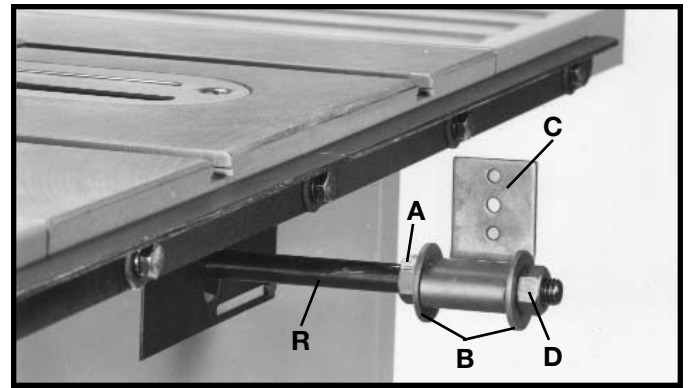

Fig. 26
1. Thread a M12x1.75 hex nut (A) onto the splitter support rod (R) Fig. 26, as far as it will go.
2. Place a 5/8" flat washer (B) Fig. 26, onto the splitter support rod (R).
3. Place the splitter bracket (C) Fig. 26, onto the splitter support rod (R).
4. Place a 5/8" flat washer (B) Fig. 26, onto the splitter support rod (R).
5. Thread a M12x1.75 hex nut (D) onto the splitter support rod (R) Fig. 26 and tighten the nut to hold the splitter bracket (C) in place.